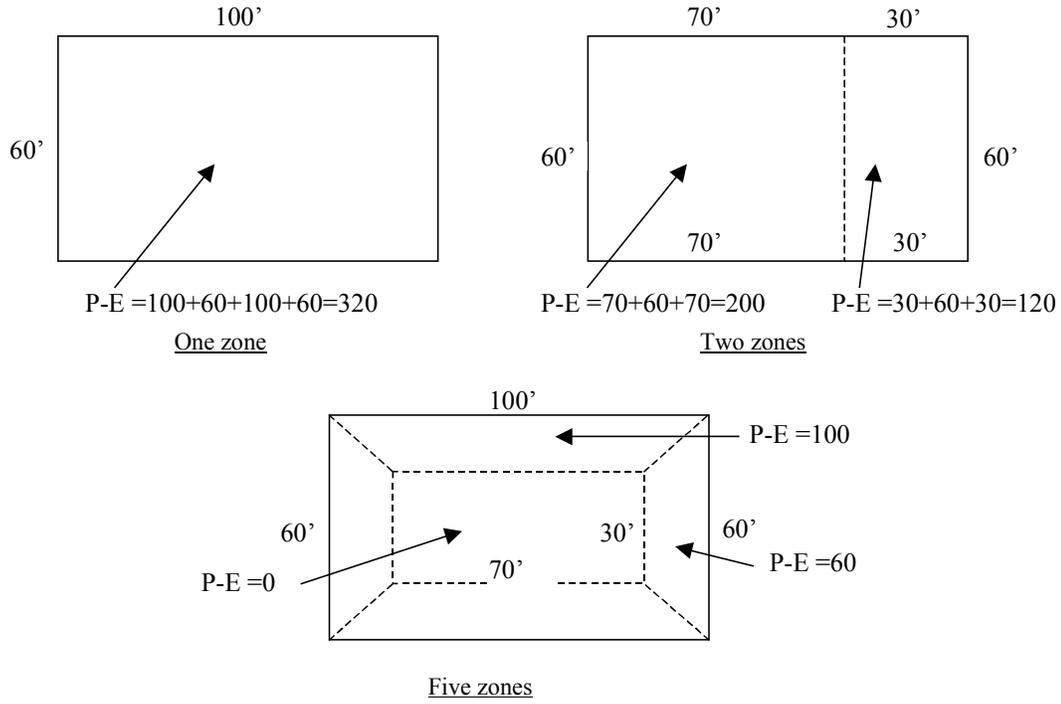
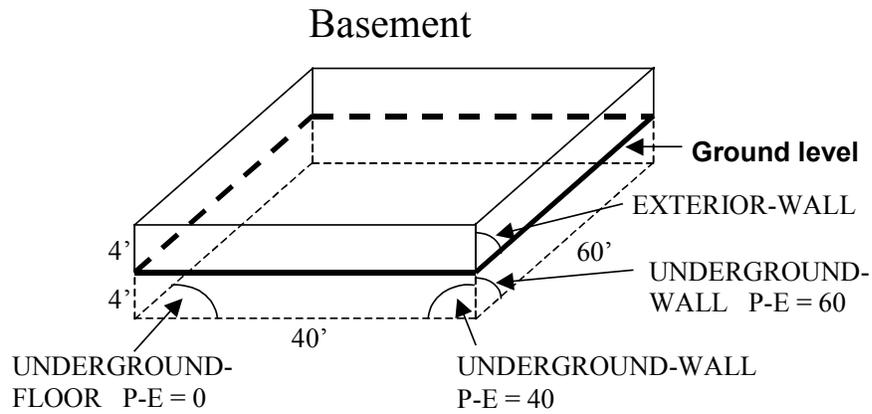

Figure 21 Exposed perimeter calculation for slab-on-grade examples. P-E corresponds to the PERIM-EXPOSED keyword.
Figure 22 Exposed perimeter calculation for basement. P-E corresponds to the PERIM-EXPOSED keyword.
2. Determine PERIM-EXPOSED, the length (ft or m) of the surface’s perimeter that is exposed to the outside air. Figure 21 and Figure 22 show values of PERIM-EXPOSED for example foundation configurations. The heat transfer through an underground surface with no exposed perimeter, such as a basement floor or slab-on-grade in an interior zone, is assumed to be zero; in this case PERIM-EXPOSED should be zero. In a future version of the program this heat transfer, although small in many cases, will be calculated.